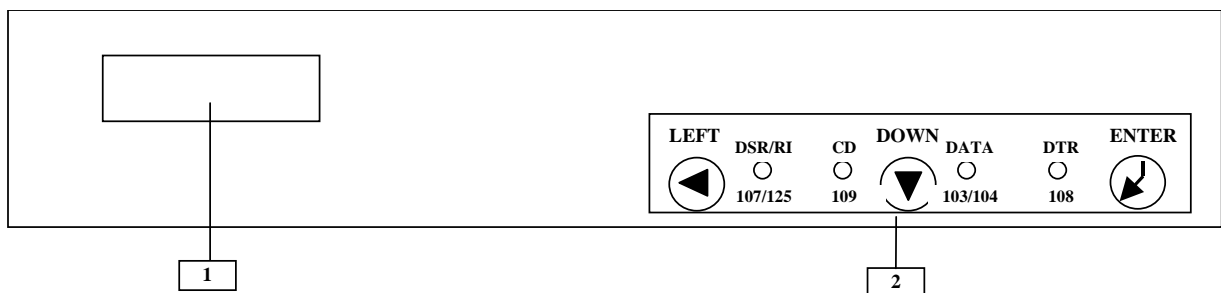

Figure 64: CXR 2885P, standalone version with LCD – front view
The CXR 2885P modem standalone front panel includes (see Figure 64) :
- A2 (Indicators) aid is provided by the LEDs located on the front panel of the modem (Figure 64). The role of the different LEDs is detailed in the figures descriptions.
- The LCD (Figure 64) comes on.